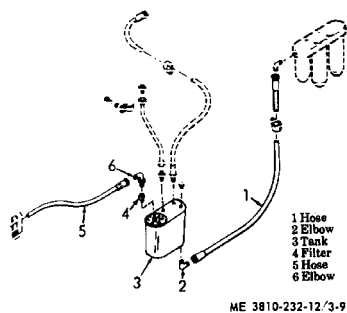

Figure 3-9. Fuel transfer tank, exploded view.
- Disconnect hose (1) figure 3-9 from elbow (2) below tank (3) and allow to drain.
- Disconnect fuel hose (5) and elbow (6) connected to float assembly.
- Remove and clean float tank filter screen (4).
- Install filter (4) e. Install elbow (6) and connect hoses (1) and (5).